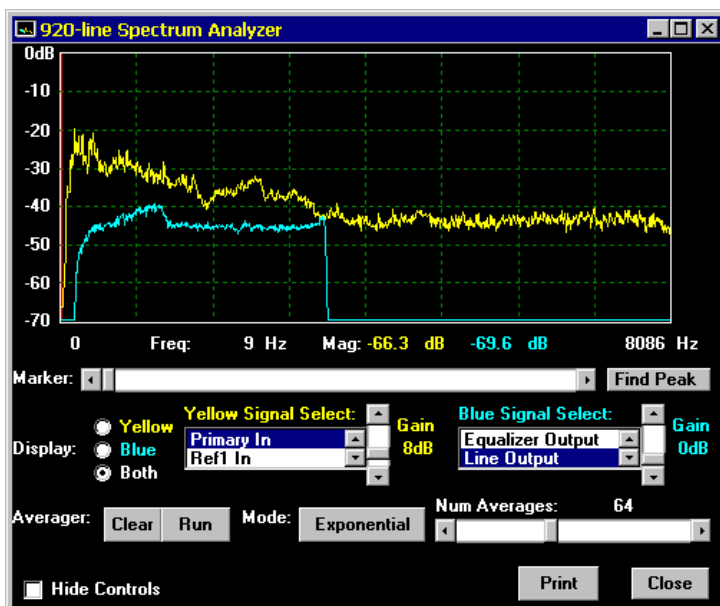

Figure 3-15 Tutorial Spectrum Analyzer Window
43. Click on the **Spectrum Analyzer** button. This will cause the Spectrum Analyzer window (Figure 3-15) to appear as
Use the mouse to set up all controls as they appear in Figure 3-15. Make sure that the **Primary In** selection is highlighted in the Yellow Trace signal select box, that the **Line Output** selection is highlighted in the Blue Trace signal select box, and that the Displayed Trace is set to **Both**.